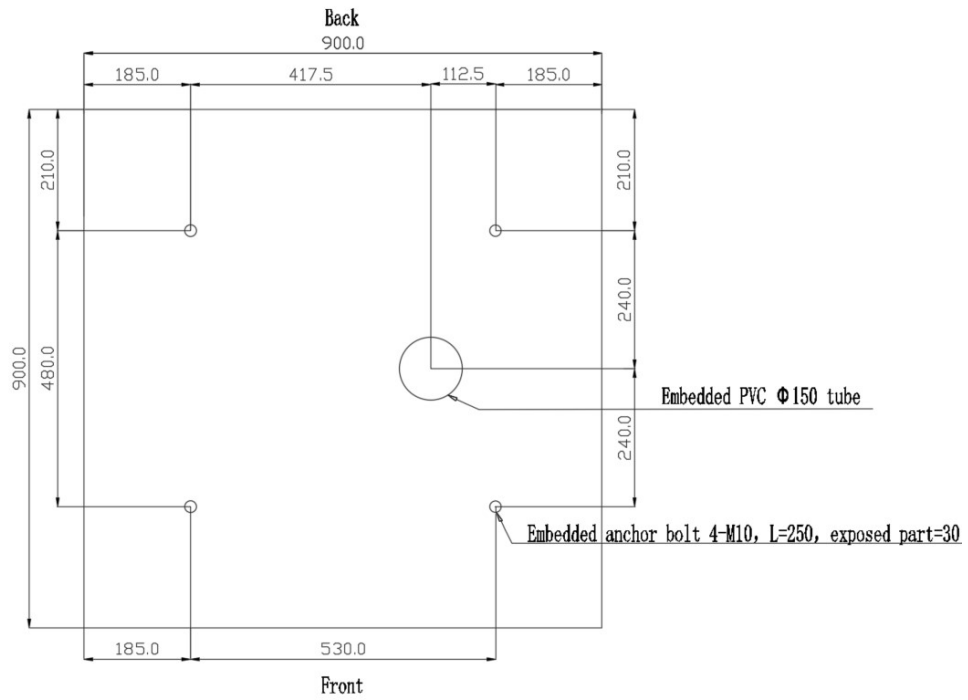

Figure 1 Top view of concrete foundation
If there is no suitable installation place on site, it is recommended to build a concrete foundation. The concrete foundation shall be poured before the product is installed. The size of the concrete foundation is 900mm\*900mm\*600mm, and the buried depth of the foundation is 400mm, which is 200mm higher than the ground height. The top view is shown in Figure 1. The design of concrete foundation can be adjusted according to the customer's requirements and the actual situation on site. The inspection requirements for concrete foundation are as follows:
- (1) Pay attention to the correction level when pouring the foundation.
- (2) The foundation installation is higher than the ground level, and the necessary maintenance channels are reserved on the site depending on the specific space.
- (3) The drain on the foundation surface is slightly inclined to avoid standing water.
- (4) The foundation is filled with C20 concrete.
- (5) Reserve an outlet hole on the foundation for cable, as shown in the Figure1.
- (6) After the foundation is completed, use a level to test the levelness.
- (7) 4 M10 screws with length L=250 are embedded in the concrete foundation in advance and expose 30~40mm on the upper surface of the concrete foundation.